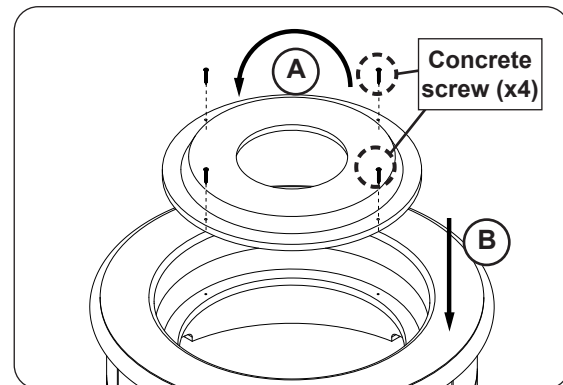

Fig. 31-2 Flip and install refractory panel
2. Flip the refractory panel and align the pilot holes. Re-install the 4 concrete screws (see Fig. 31-2).